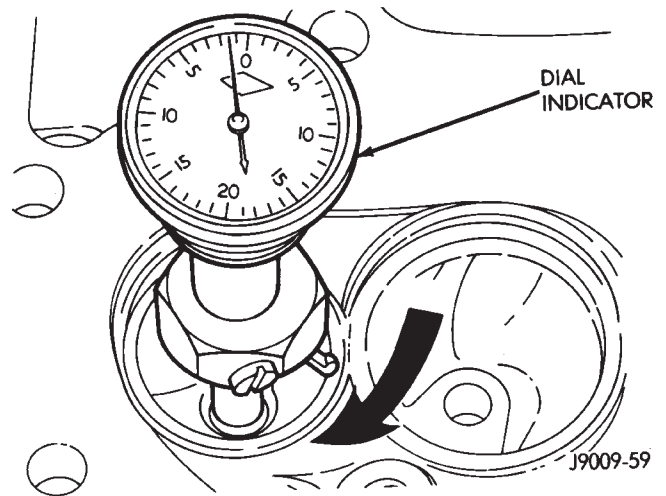

Fig. 9 Measurement of Valve Seat Runout
(1) Install a pilot of the correct size in the valve guide bore. Reface the valve seat to the specified angle with a good dressing stone. Remove only enough metal to provide a smooth finish.
(2) Use tapered stones to obtain the specified seat width when required.
(3) Control valve seat runout to a maximum of 0.0635 mm (0.0025 in.)—(Fig. 9).